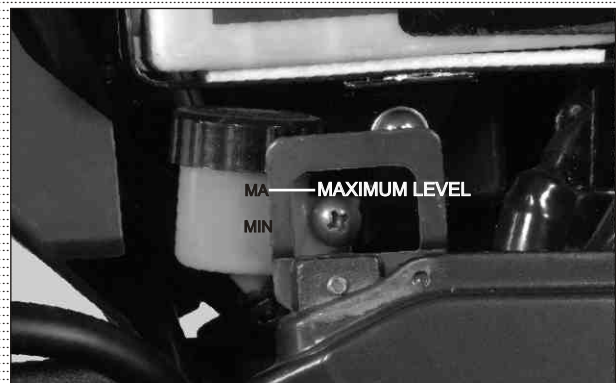

Fig. 6.119
- Fill the reservoir with DOT3 or DOT4 brake fluid upto the level 'MAX' marked on the reservoir and bleed the system thoroughly. (Fig. 6.119)